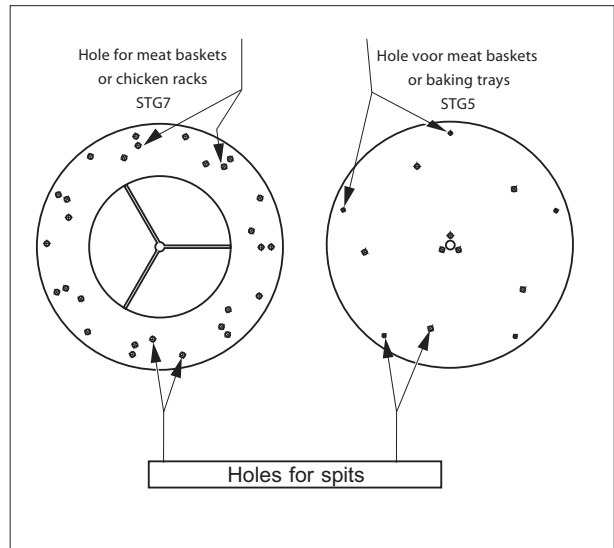

Figure 2.2
- ☒ Place the spits in the rotor discs (see figure 2.2).